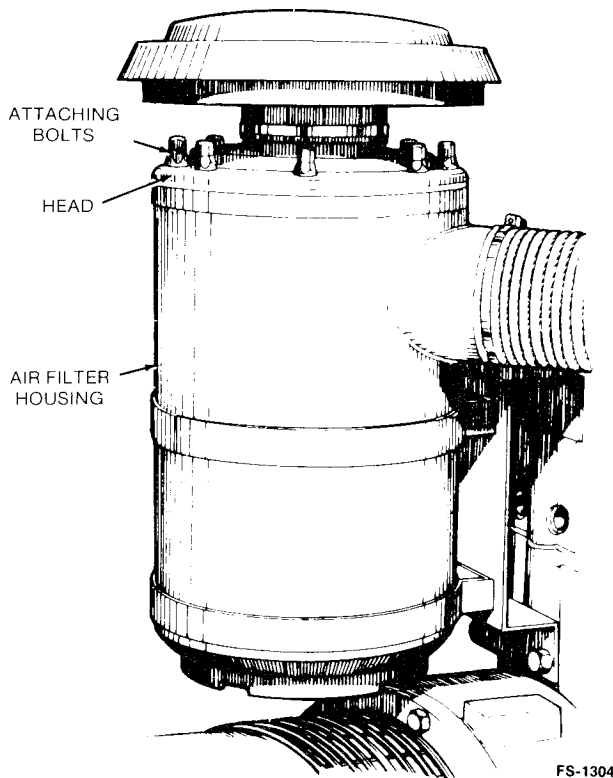

FIGURE 12. AIR CLEANER
1. Loosen the eight attaching bolts and lift off the air cleaner head (see Figure 12).